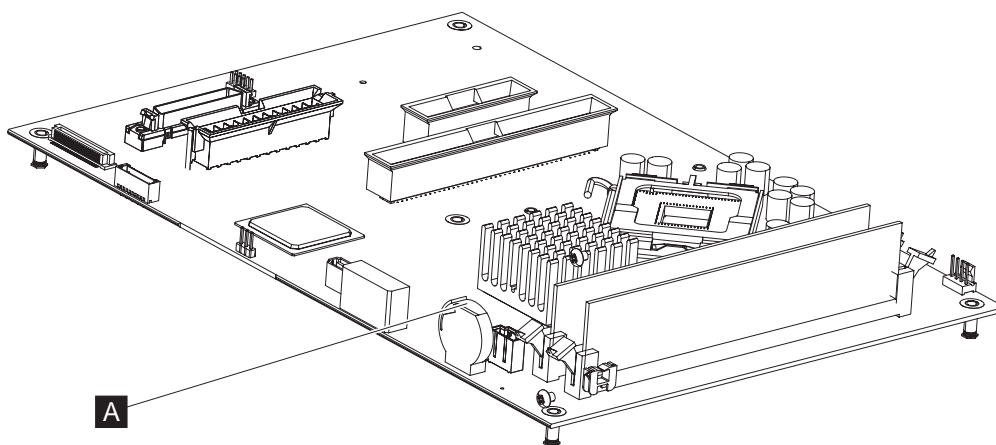

Figure 21. System-board battery
5. Remove the old battery from slot **A** as shown in Figure 21.